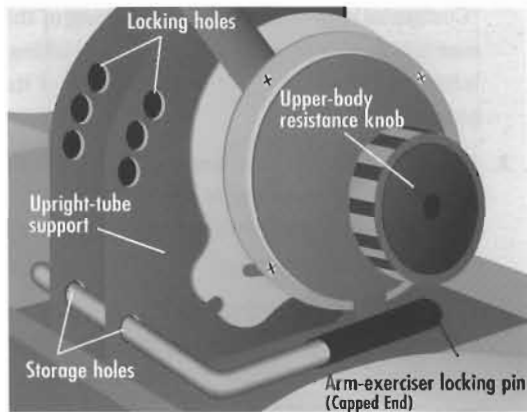

Figure 1
2. If the arm-exerciser locking pin is inserted through the locking holes, remove it and place it in the storage holes in the upright-tube support (Figure 1). Be sure to hold on to both arm-exerciser poles with one hand as you remove the pin. The capped end of the arm-exerciser locking pin should extend toward the front of the base.